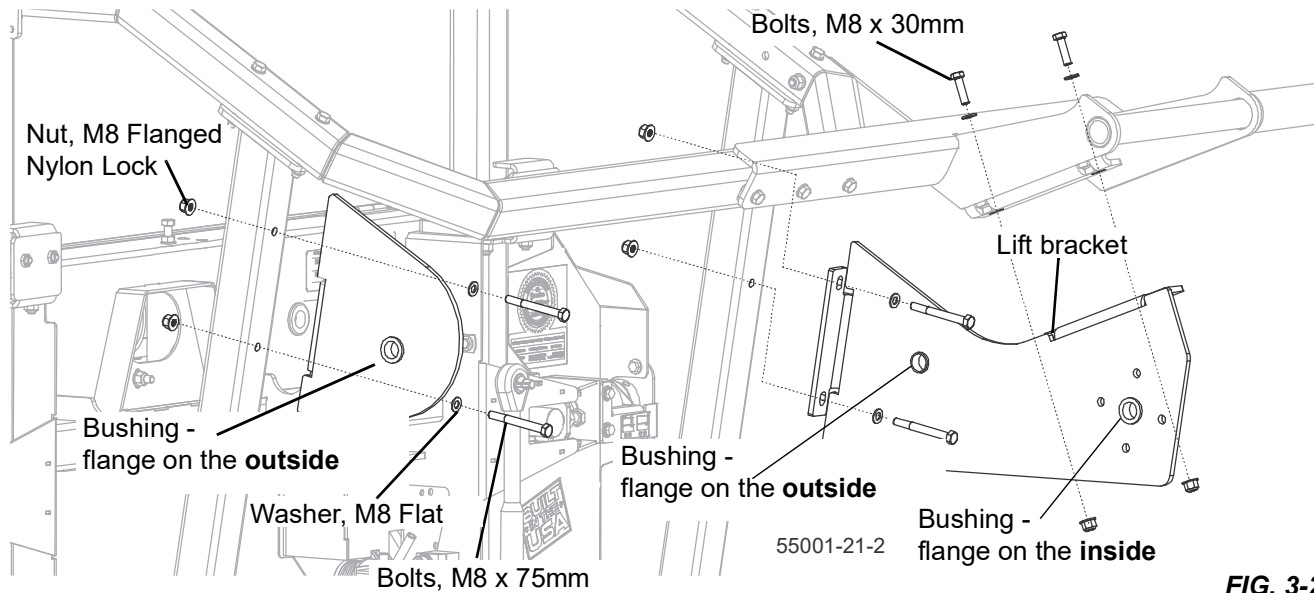

FIG. 3-28
1. Insert the bronze bushings into the holes located on up/down brackets. See Fig. 3-28.